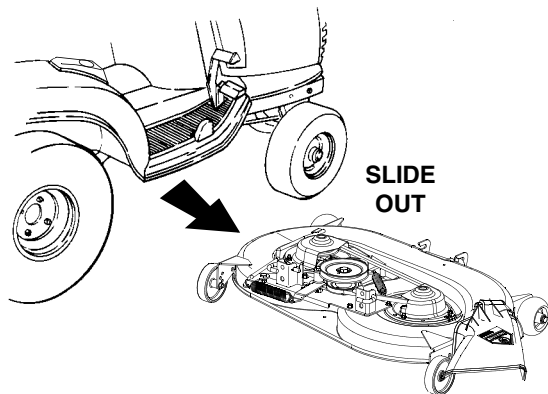

Figure 44
10. With the tractor implement lift handle raised to its highest setting, slide the deck to the right and out from under the tractor (See Figure 44).